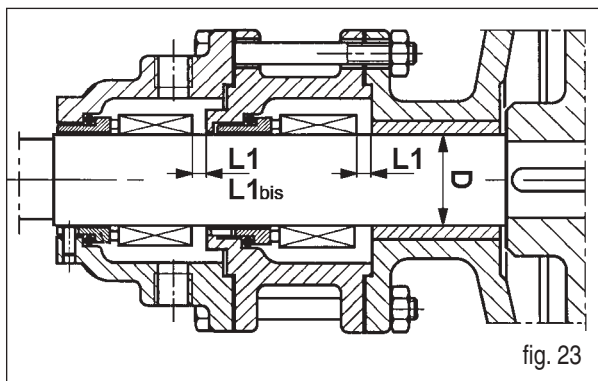

fig. 23
- Slip on the rear cover (09).
NB: The table shows the diameter D of the shaft and the distance L between the seal (66.1) and the rear cover (09) when the latter is not fixed in place but only resting on the rear of the rotor (fig. 23).